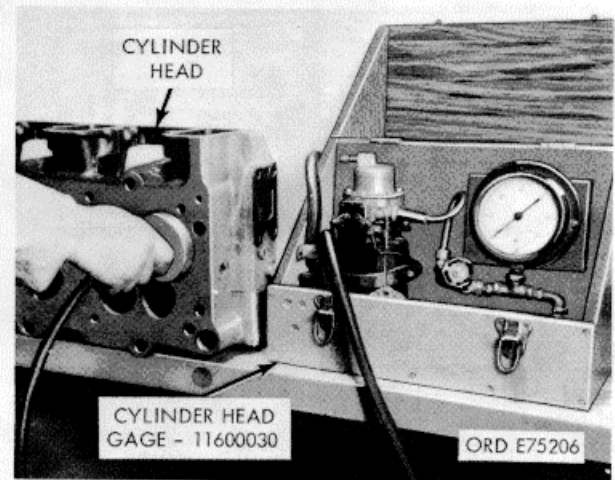

Figure 3-47. Valve seat test.
a. Valve Seating (fig. 3-47). Test valve seating for leaks with cylinder head gage (2, fig. B-29) as follows: